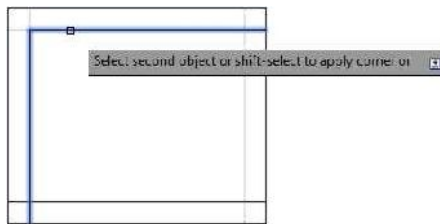

FIGURE 2.23: Blue glow indicating the resulting line segments while picking two lines to execute the FILLET command
3. Move the cursor—now a pickbox—to the shape, and click two intersecting lines, as shown at the top of Figure 2.23. Hovering over the second line (Figure 2.23, bottom) causes the lines to glow blue along the line segments that will remain.